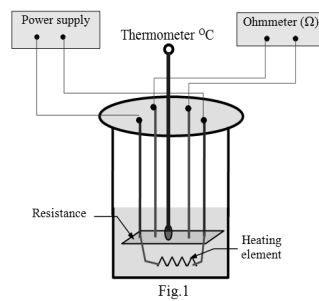

Figure 14:
3. Immerse the heater and the resistance coil in the beaker containing water enough to cover the oil. Connect the power supply to the heating element, and the thermometer probe to be in contact with the resistance coil, as shown in Figure 14.